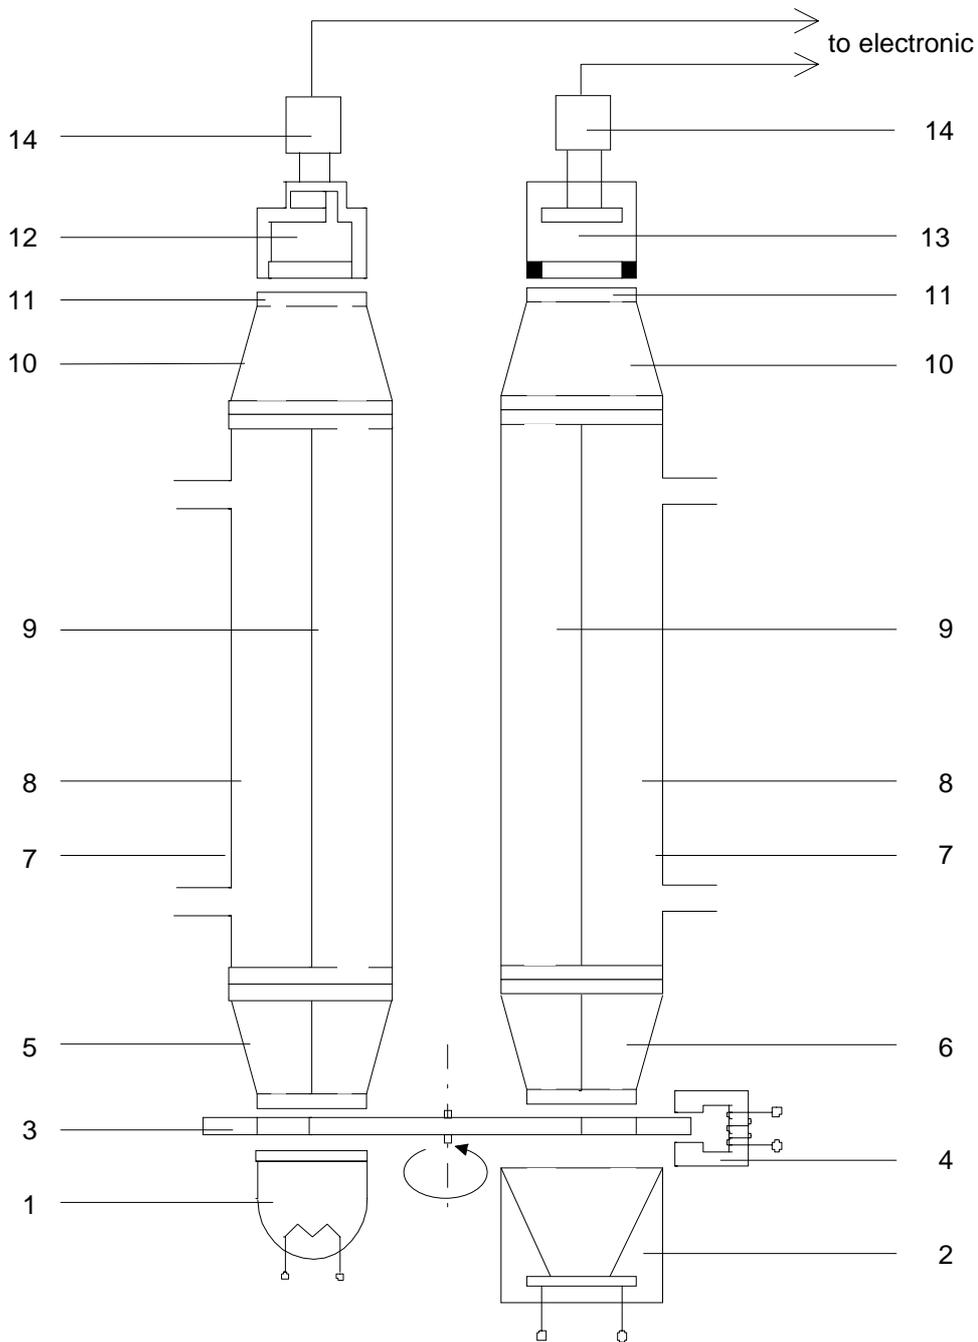

Fig. 2-1: Measuring Principle for NDIR / UV Measurement
The principle photometer assembly is shown in Fig. 2-1.
The photometer assembly is similar to the assembly with “gas detector” (Fig. 2-1) with the exception of the analysis cell and the detector. The analysis cell is not divided into measuring and reference side (selectivity by interference filters). After the analysis cell the radiation passes a second filter cell (10) to reach the pyroelectrical (solid-state) detector (12).
The absorption measurement in the UV spectral range is based on the same principle as the IR measurement (Fig. 2-1).